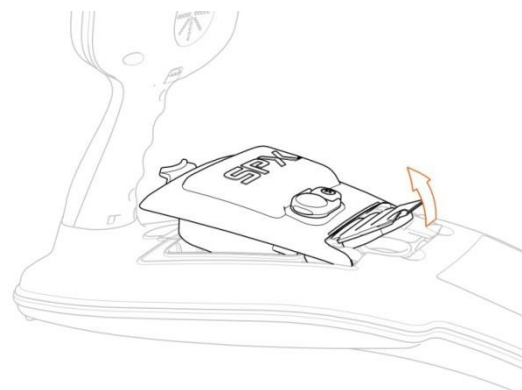

Figure 3.5 Lifting accessory cover
- 3 Lift the accessory cover slightly (fig 3.5)